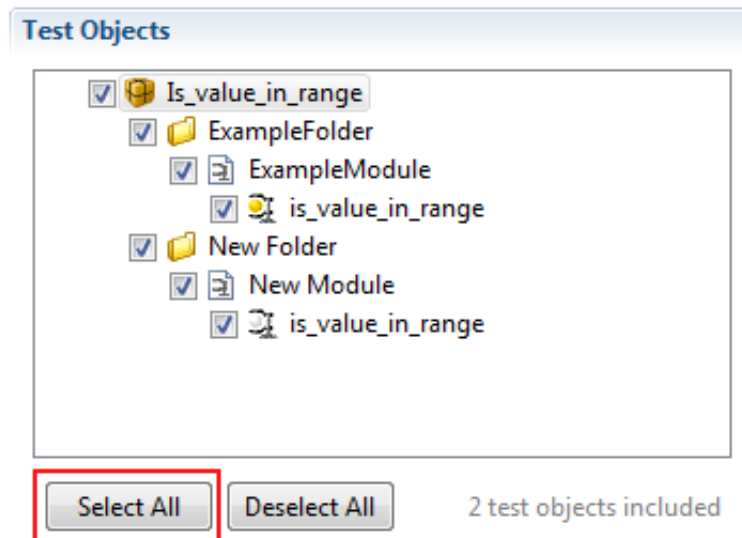

Figure 6.53: Selecting all text objects
- Under “Test Objects” choose the project or modules or test objects for the batch test. Click “Select All” to select all at once (see figure 6.53).